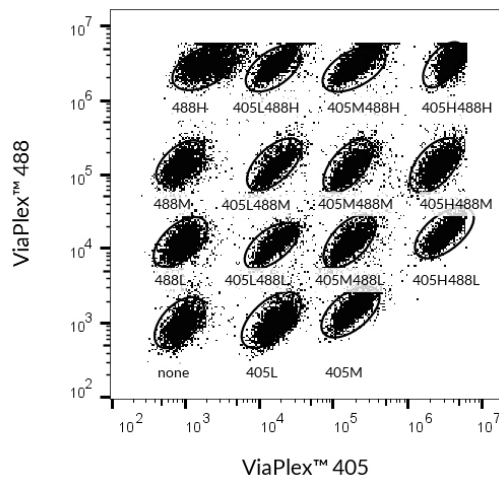

Figure 1. Example flow cytometry scatter plot from a 15-plex assay showing the segregation of each barcode population in the mixed sample.
- 5.2 Set up a dot plot with a channel for detecting each ViaPlex™ Barcode Dye on one of the axes (see Spectral Properties for the dye Ex/Em; see the product page for recommended laser and filter sets; see Figure 1 for example dot plot). If you set aside some of the 405H488H and No dye individual cell samples, they can be used to adjust the instrument detector gains and the dot plot display to ensure that all 15 of the barcodes are well-separated and falling within the plot area.
- 5.3 Set gates on each of the 15 individual barcoded populations, numbering them as you did in the experiment. See Figure 1 for an example.